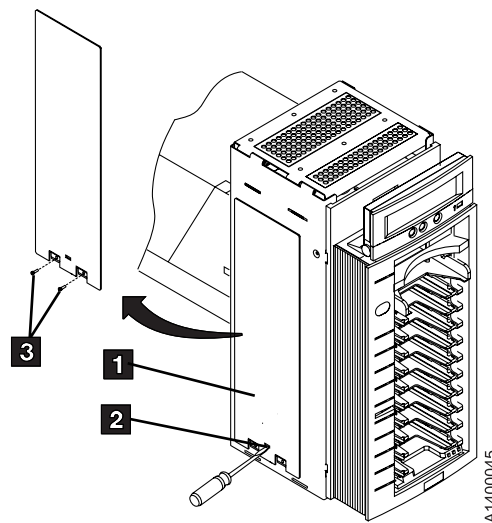

Figure 197. ACF Side Cover
- ___ a. See Figure 197. Remove the two screws **3**.